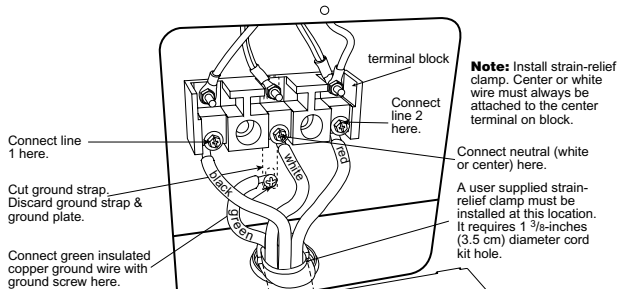

Figure 8
### 4-WIRE CONNECTION INSTRUCTIONS-FIGURE 8
- 4 Connect the green ground wire lead with the eyelet to the frame of the range with the ground screw using the same hole in the frame where the ground screw was originally installed. See Figure 8.